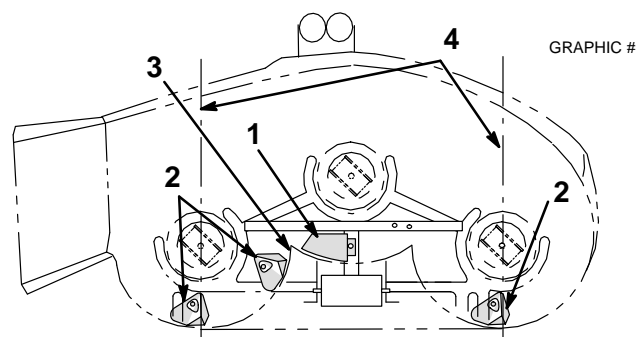
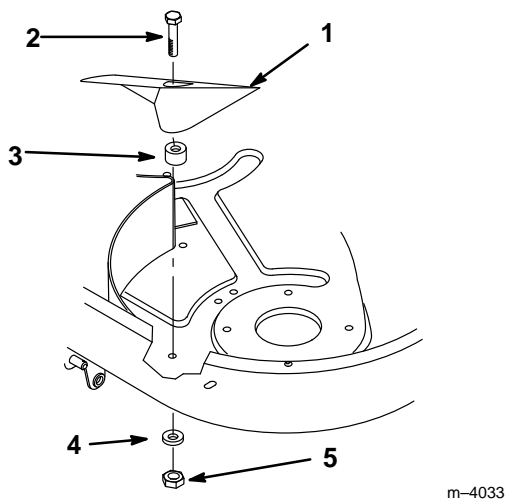

Figure 4
Figure 5
If you had to drill holes to install the baffles, you will also need to drill holes for the kickers, as described in this section. If you did not have to drill holes, remove the short bolts from the holes where the kickers will go (Fig. 4) and proceed to the next section.
- Place kicker plate into center chamber so tab is in recessed area against rear baffle (Fig. 4).
- Place (2) kickers into deck on raised area, not in depressions, on center lines (Fig. 4).
- Place third kicker 1" from left/center joint of rear baffle (Fig. 4).
- Remove kickers and plate, drill (4) 11/32" holes in the mower.
1. Place the kicker plate into position (Fig. 4).
3. Position kickers (Fig. 4) and secure them with (3) 5/16"-18 x 1" bolts, spacers, flat washers, and locknuts (Fig. 5).